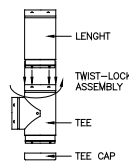

Fig. 2
3. To start the liner installation, attach the tee to the first length. Insert the liner with the male (smaller connection) end down. Twist lock the part together (fig.2). Attach the tee cap to the base of the tee.
2. Attach the tee to the first liner length. Insert the liner with the male (smaller connection) end down. Twist lock the parts together (fig. 2 page 4).